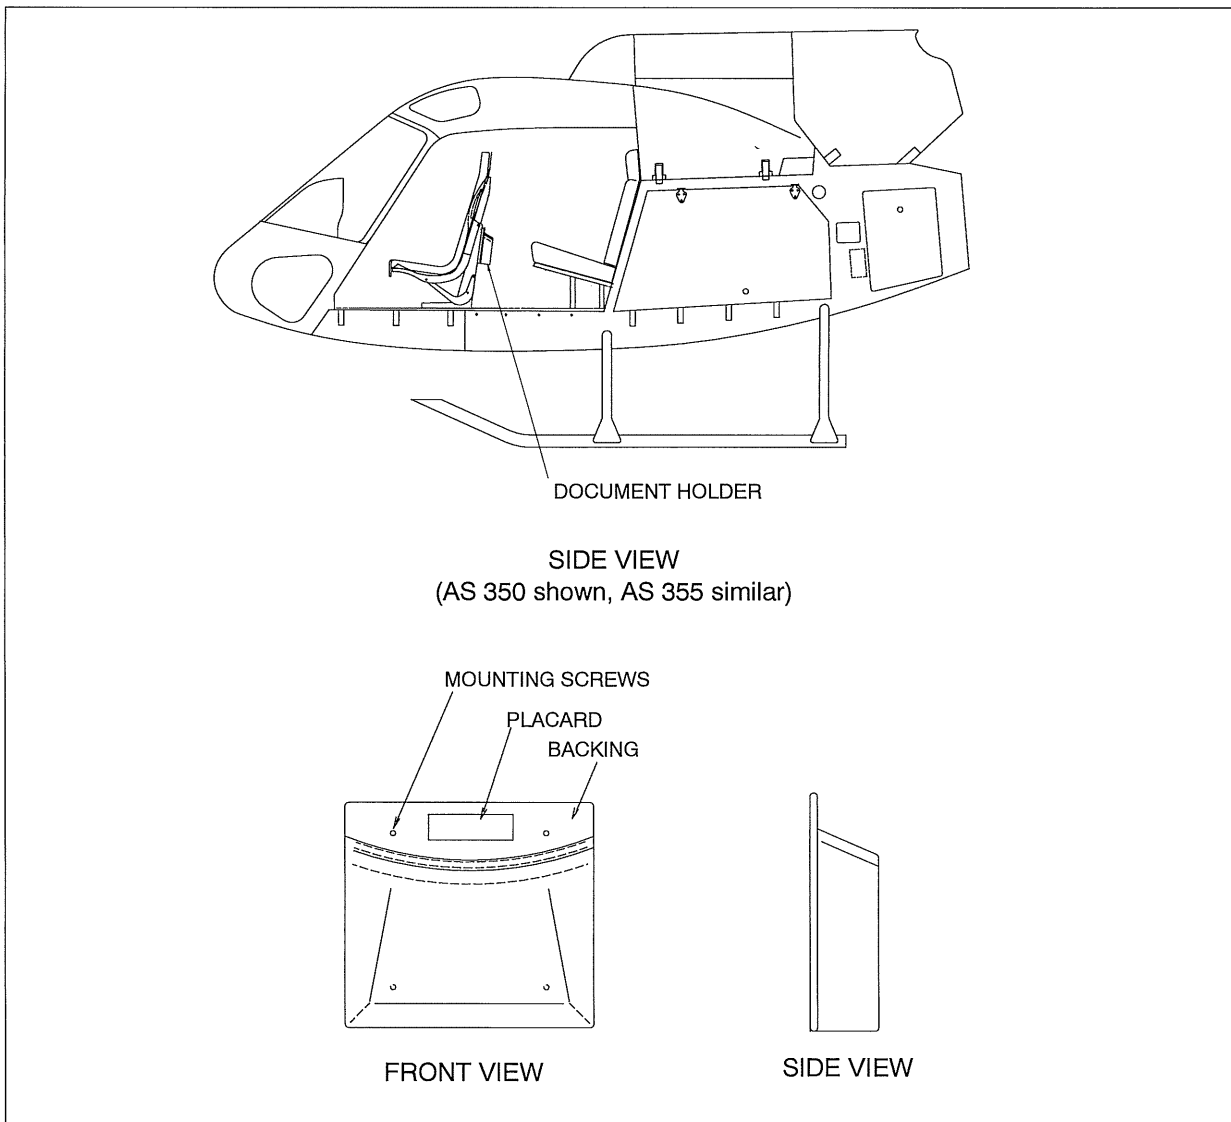

Figure 1 General Layout
Refer to Figure 1 for General Layout.
| A | - Check document holders, shown in Figure 1, for: a. security b. wear (visible fading, fraying, cuts etc.) c. cleanliness | a. Secure as required. b. Excessive wear is not permitted. If excessive wear is evident, contact AHCA for replacement parts. c. For cleaning instructions refer to Appendix B. |
1) DOCUMENT HOLDERS (Refer to Figure 1)
- a) Remove existing hardware securing backing plate (6) and document holder (1) to the back of the outboard forward seat(s) and place on workbench. Retain hardware for reinstallation.
- b) Remove screws (2, 4 places), washers (3, 4 places) and nuts (4, 4 places) securing the document holder (1) to the backing plate (6).
- a) Secure document holder (1) to backing plate (6) using screws (2, 4 places), washers (3, 4 places) and nuts (4, 4 places).
- b) Reposition backing plate (6) with document holder (1) onto back of the outboard forward seat(s) and secure using retained existing hardware.